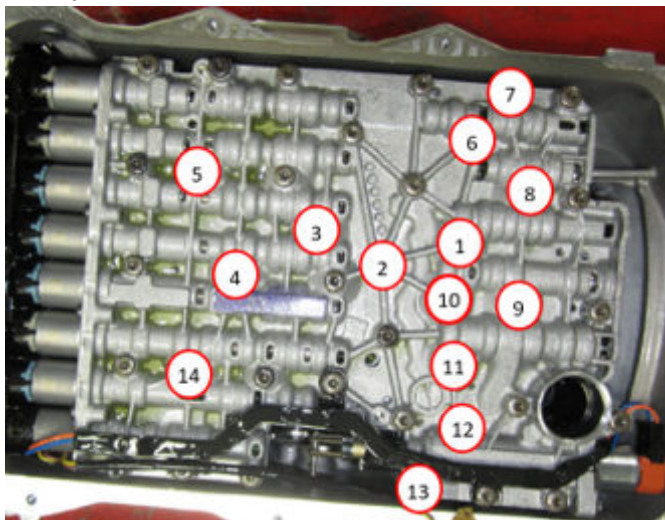

Fig. 12
18. Remove the fluid port from the transmission or valve body assembly (the fluid port may stick in the valve body upon removal) Fig. 12.